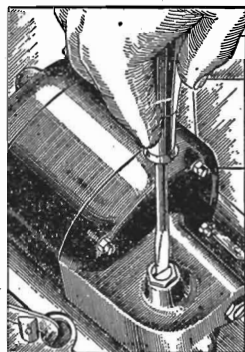

Figure 8—Adjusting spindle height
- (a) Improper turntable spindle height. The height of the turntable spindle nose should be approximately $\frac{1}{32}$ " above the inside bottom surface of the record magazine. Adjustment of this height made by means of the screw at the bottom of the motor. (See Figure 8).